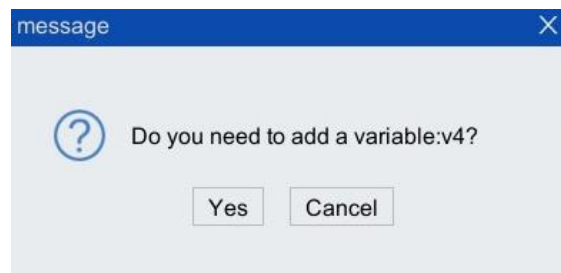

Figure 5-17 "Are you sure to create the variable v4" dialog box
Step5.Click <Yes> to open [Prompt] box of "Create Variable v 4" as shown in Figure 5-17, and click <Yes> to create variable.